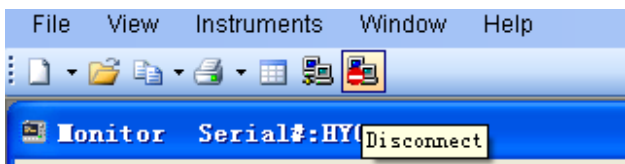

Figure 14. Disconnect
- Click the shortcut key of disconnection as shown in Figure 14